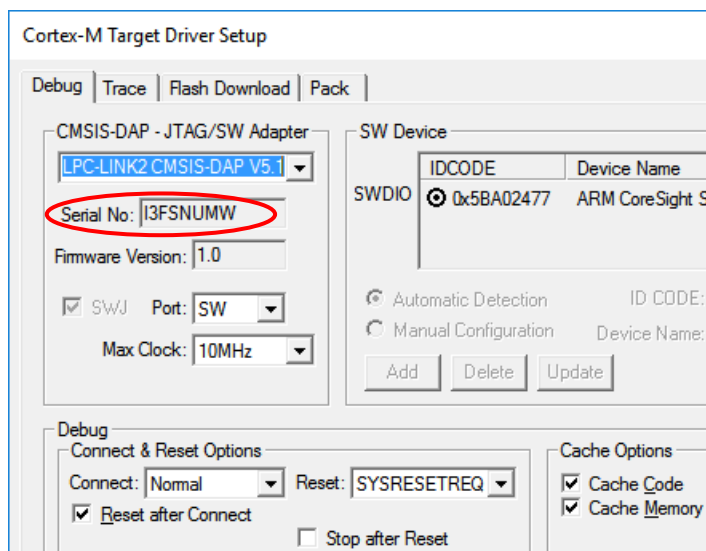

Figure 68 - LPC-Link 2 Serial No
- Click on the "Settings" button and look for the "Serial No" field as shown in Figure 68.